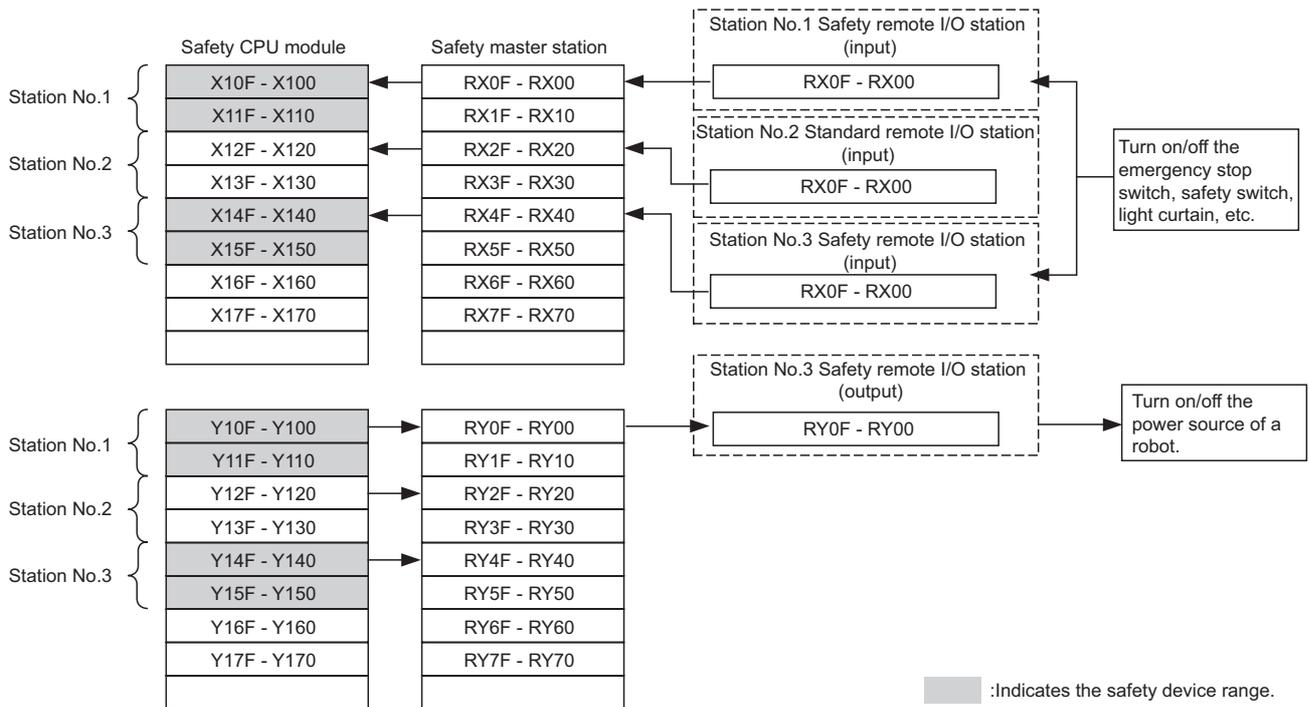

Figure 4.5 I/O data of safety remote station*1
*1: Figure 4.5 shows a case where X100 and Y100 are set with the auto refresh parameter. The following device ranges actually not input/output to the safety remote I/O station are included.